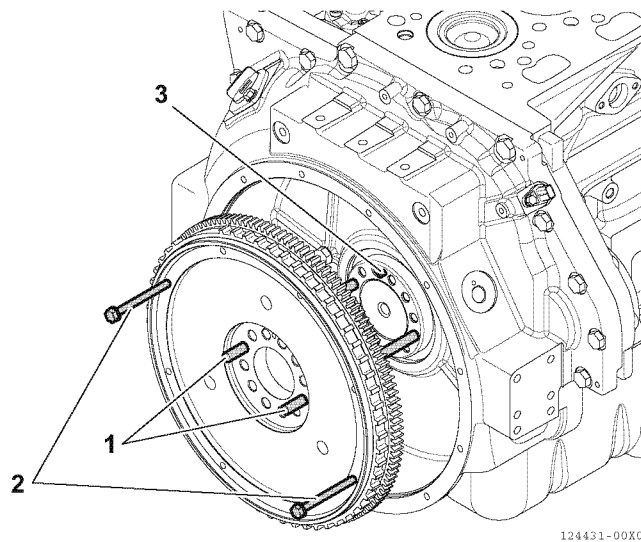

Fig.03-11
1. Attach 2 guide bars (1, Fig.03-11) to the flywheel attaching bolt hole of the crankshaft.
2. Attach 2 bolts (2, Fig.03-11) to the flywheel as a handle. Along the guide bar, attach the retaining pin of the crankshaft (3, Fig.03-11) and the flywheel pin hole. Apply lubricating oil to the flywheel attaching bolts, and screw in until it is tightened (without tools) to temporarily tighten them.